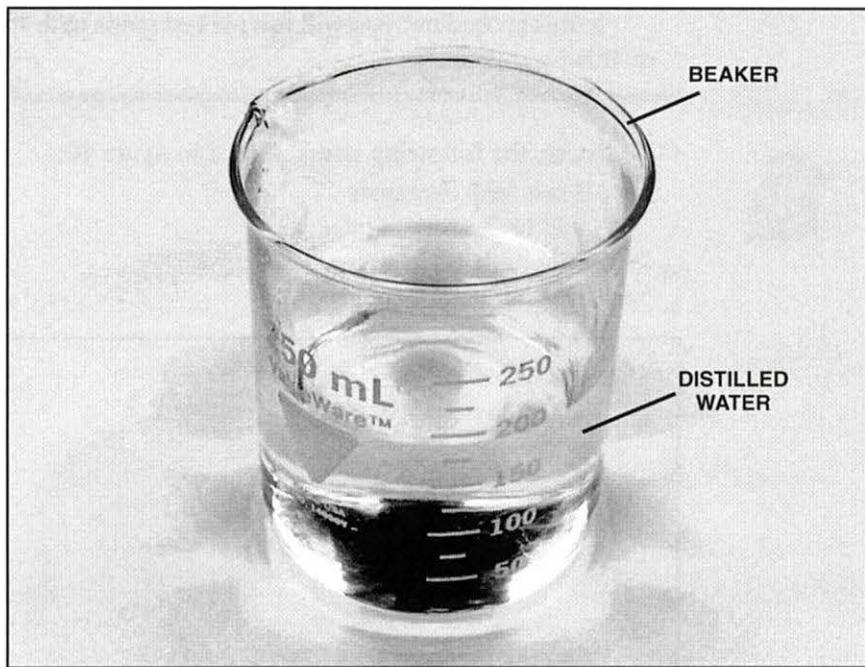

Figure 11. Distilled Water in Beaker
- B. Pour a small amount of the distilled water into the small beaker or container, similar to figure 11.